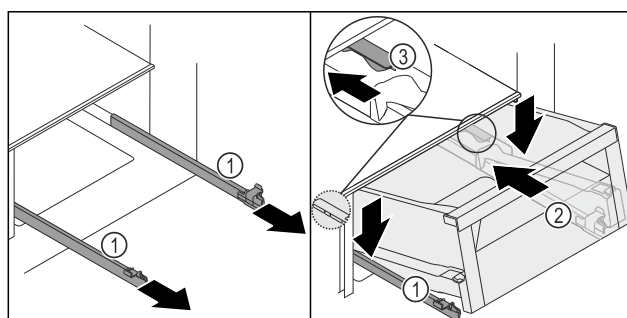
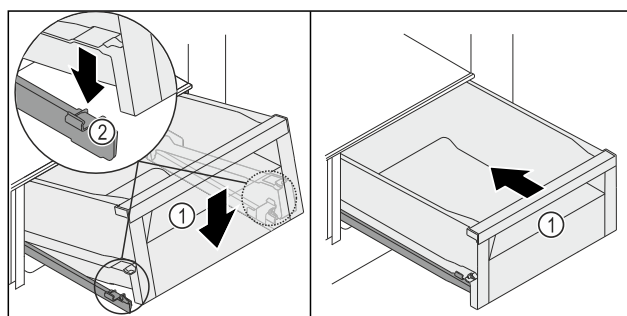

Fig. 101
Fig. 102
- Hold the rails Fig. 101 (1) firmly and place the drawer Fig. 101 (2) on the rails Fig. 101 (1) from above behind the stopper Fig. 101 (3).
- Slide the drawer Fig. 101 (2) backwards on the rails Fig. 101 (1) as far as it will go.
- Lower the drawer Fig. 101 (2) at the front so that the drawer slides into the clamp Fig. 102 (2) on the left and right.
- The drawer Fig. 102 (1) locks in audibly.
- Push in the drawer *Fig. 102 (1)*.